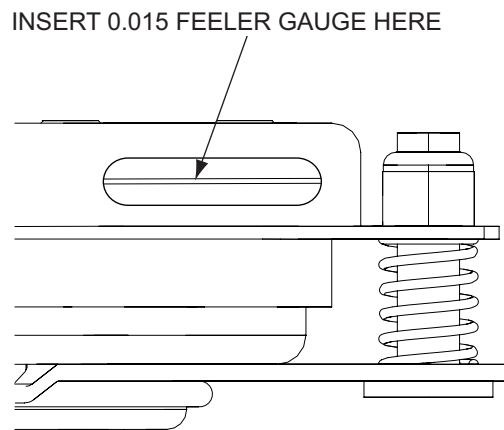

Figure 6-7. Clutch Inspection Window
- Place a 0.015" feeler gauge between the rotor and the armature. See Figure 6-7.